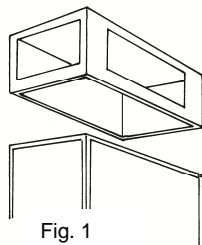

Fig. 1
- a head of the "plenum" type with four lateral openings and adjustable fins which send the hot air in the desired direction (Fig. 1).